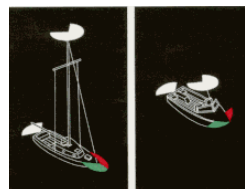
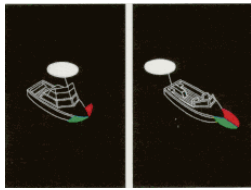

Figure 1
Figure 2
Motorboats less than 20 meters (65.62 feet) shall exhibit navigation lights as shown in Figure 1. *(Note: Two masthead lights are optional for boats under 50 meters. Boats over 50 meters [164 feet] will display two masthead lights.)*
Motorboats of less than 12 meters (39 feet, 4 inches) in length, may show the lights in either Figure 1 or Figure 2. Boats of less than 7 meters (23 feet) whose maximum speed cannot exceed seven (7) knots may